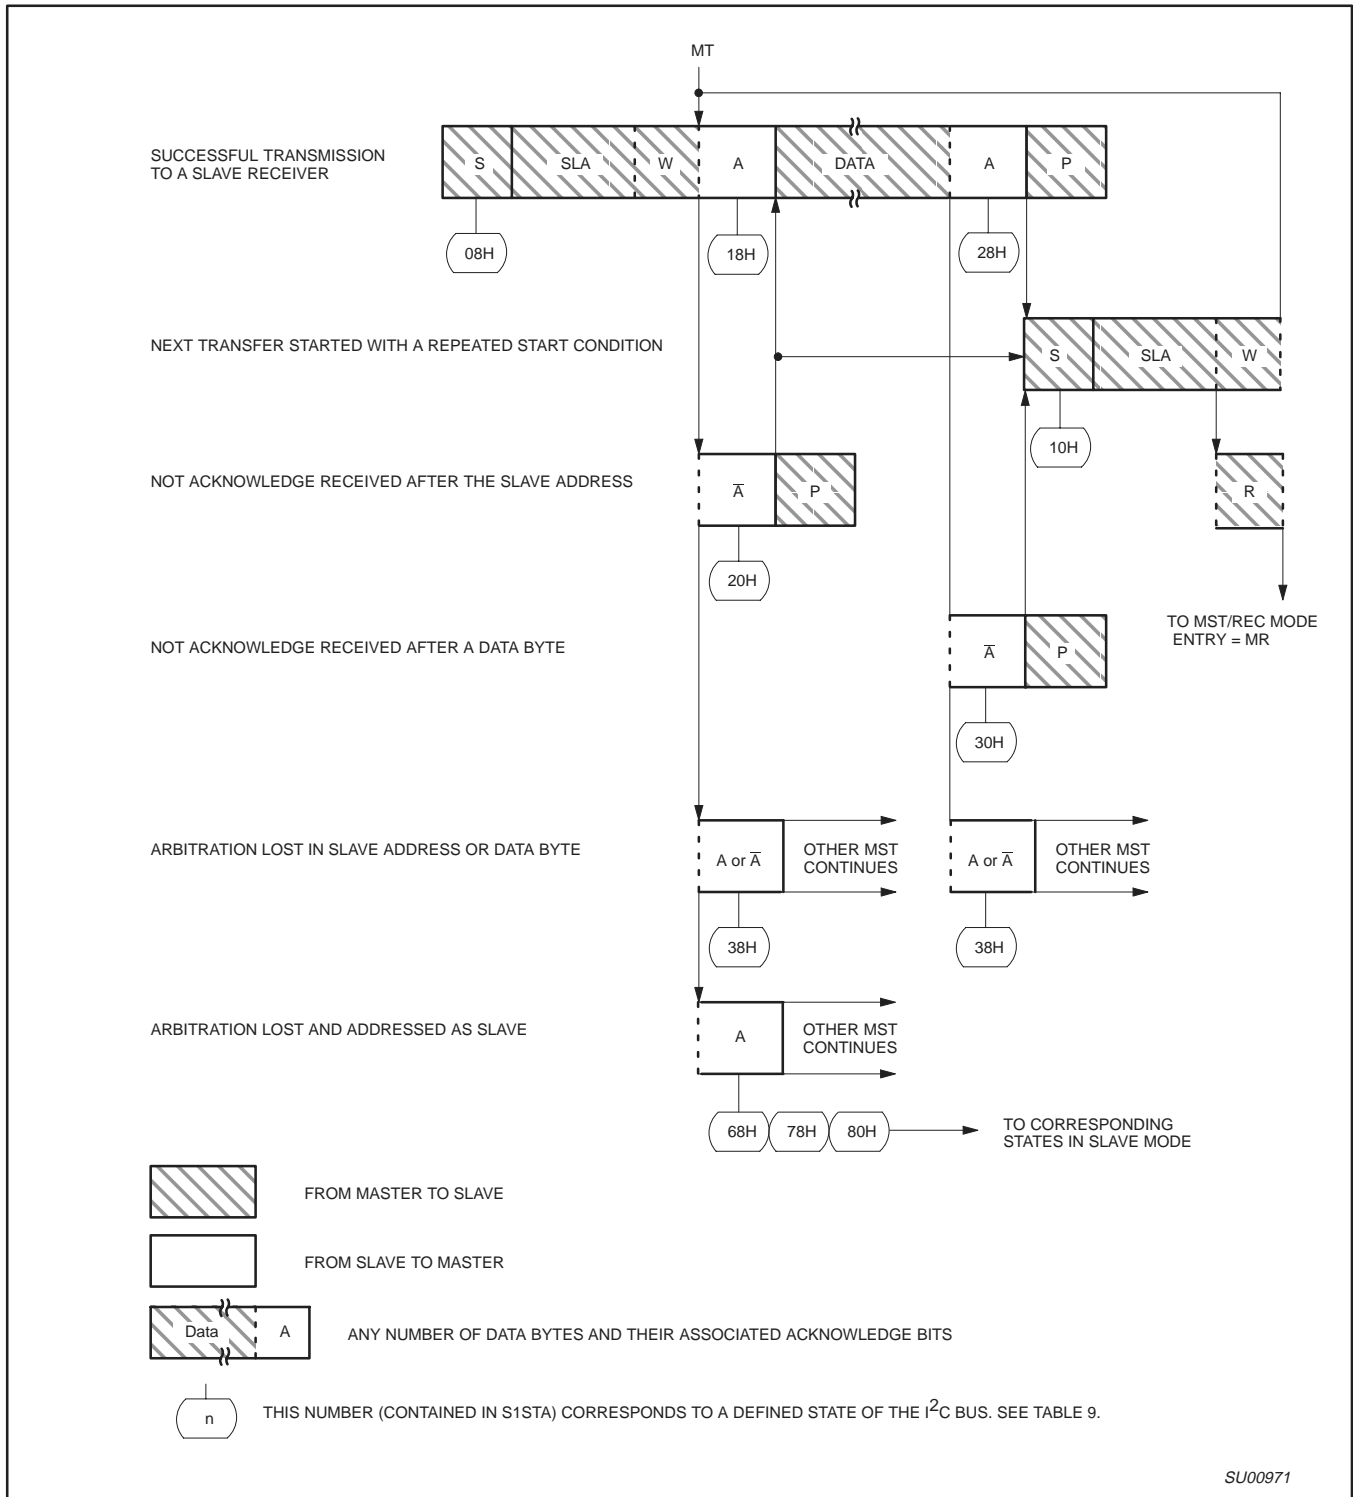

Figure 28. Format and States in the Master Transmitter Mode
Data transfers in each mode of operation are shown in Figures 28–31. These figures contain the following abbreviations:
**Master Transmitter Mode:** In the master transmitter mode, a number of data bytes are transmitted to a slave receiver (see Figure 28). Before the master transmitter mode can be entered, S1CON must be initialized as follows: